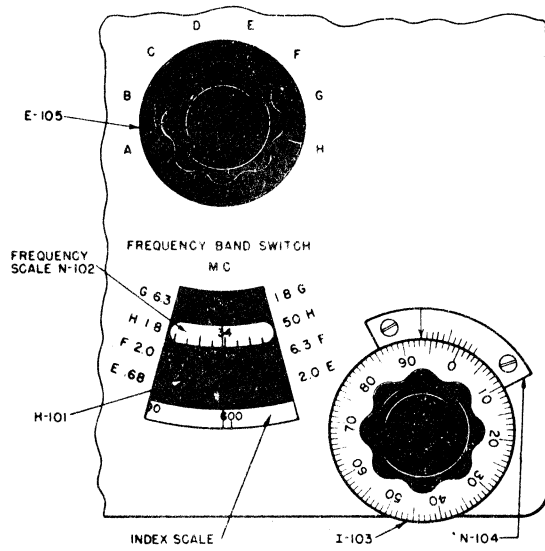

Figure 4-2. Diagram Showing Vernier Reading of Frequency Scale.
(See figure 4-2).
(1) Assume that it is necessary to obtain a signal at 34.3 mc  $\pm .05\%$ .
(2) Select the zero beat closest to 34 mc. This might indicate a reading slightly less than "600" on the index scale. From figure 4-2, we see that the arrow on N-104 points to somewhere between "93" and "94". We also see from this figure that the third line on N-104 lines up with a marker on I-103. The numerical setting at this crystal check point is therefore "593.3".
(3) Rotate TUNING dial I-103 counterclockwise, passing the 34 mc marking, until the next zero beat is heard. This will appear 1 mc away from the first check point. Let us assume that this will occur at a vernier reading of 614.5. This represents a vernier difference of 21.2 for a 1 mc spread. A setting of 34.3 therefore represents an advance of  $.3 \times 21.2$  or 6.36 from the "593.3" setting.
(4) Set the vernier reading to  $599.7 = (593.3 + 6.36)$ . This represents a frequency of 34.3 mc  $\pm .05\%$ .